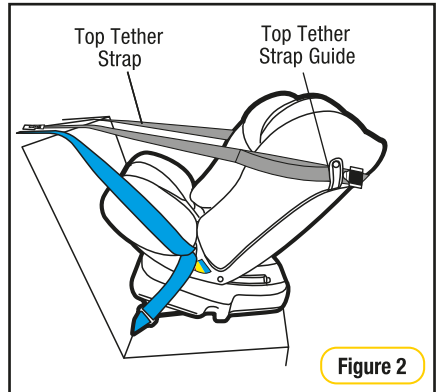

Figure 2
- Loosen upper tether strap (refer Figure 2).